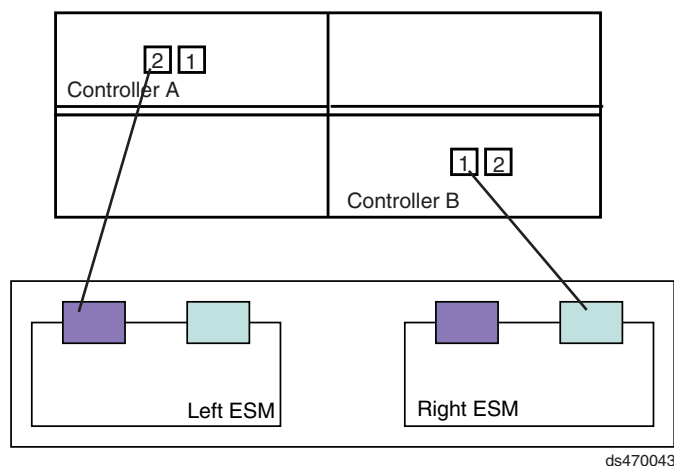

Figure 51. One DS4700 Express and one storage expansion enclosure — Recommended cabling
If you are cabling one DS4700 Express Storage Subsystem to one storage expansion enclosure, Figure 51 shows the recommended cabling topology.
**Note:** Figure 51 illustrates the drive channel connections between the DS4700 Express and the storage expansion enclosures. Do not use Figure 51 as the cabling diagram. Follow the instructions in “DS4700 Express Storage Subsystem and supported storage expansion enclosure drive cabling schemes” on page 77 for specific cabling instructions.